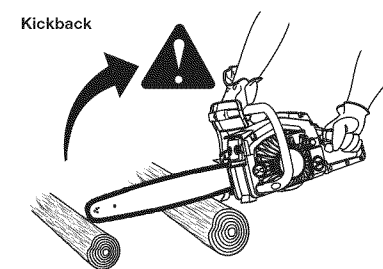

Fig. 3
- **DO NOT** let the tip of the guide bar contact any object, such as a log, branch, ground or other obstruction. Remove or avoid any obstructions that might impact the tip of the guide bar while cutting (Fig. 3).